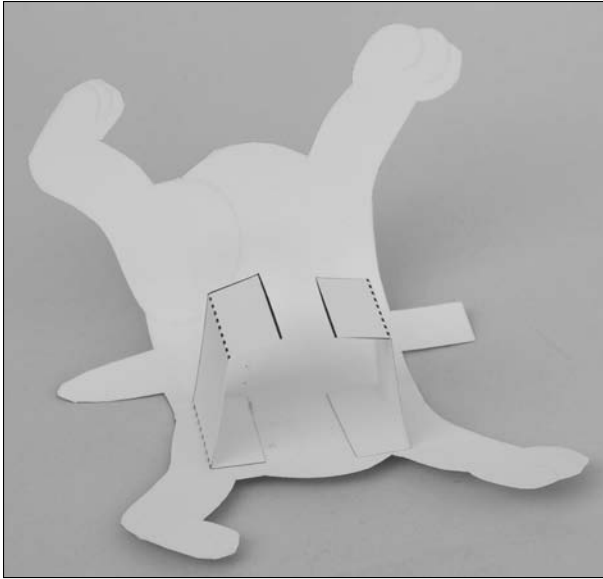

Figure 10-20:
1. Glue the two body inners onto one side of the dog as Figure 10-20 shows. Let the glue dry completely.